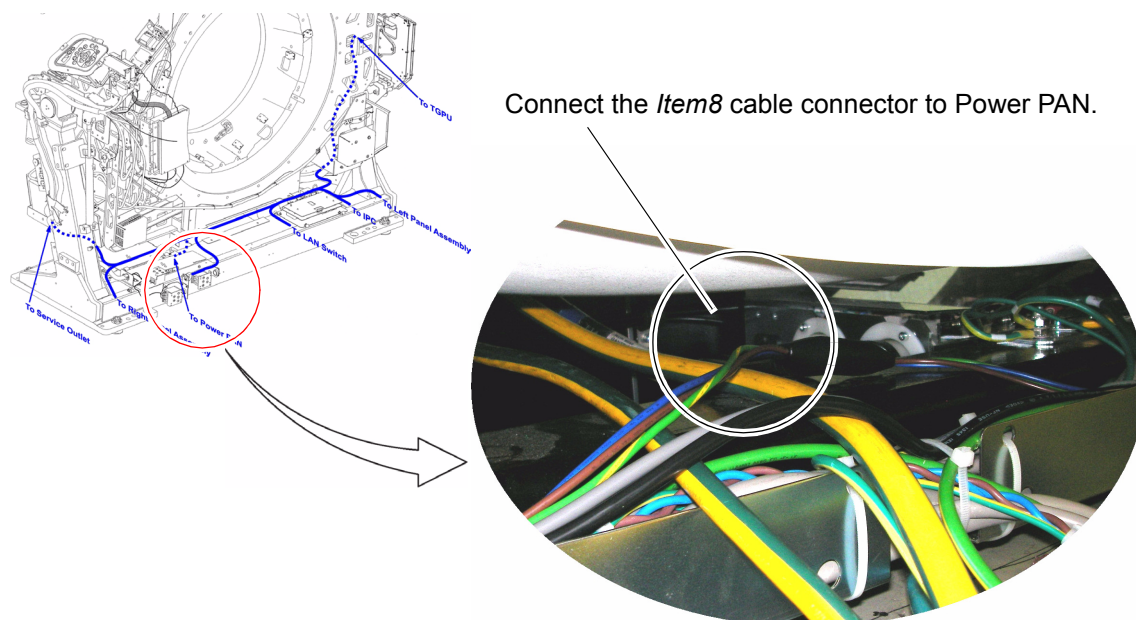

Figure 1-16 Power PAN Cable Connection
- (Refer to Figure 1-12 through Figure 1-16 for further information)